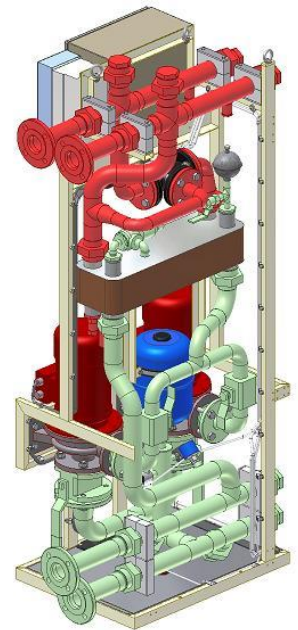

Figure 4.2-1
- Primary circuit, HXM120-PS01 (green colour in the Figure 4.2-1)
- Secondary circuit, HXM120-PS02 (red colour in the Figure 4.2-1)